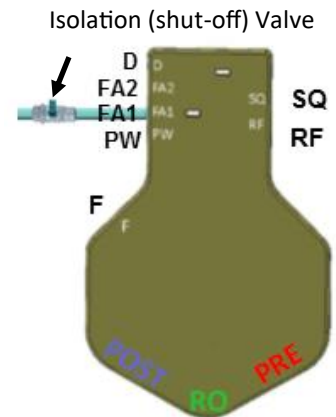

Figure 6
- Make sure that a 3/8" isolation/shut-off valve is installed at the system in the coffee maker line and easily accessible under the sink cabinet (Figure 6).